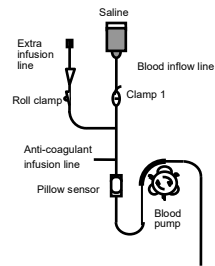

Fig. 1
- 3) Insert the pump tube into the pump and the pillow sensor into the pillow sensor unit (Fig.1).